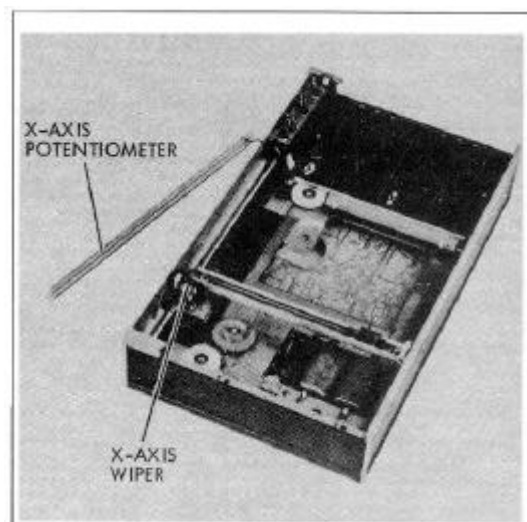

FIGURE 5-7. REMOVAL OF X-AXIS REBALANCE POTENTIOMETER
- Remove 2 screws mounting slidewire assembly to frame. See Figure 5-7.